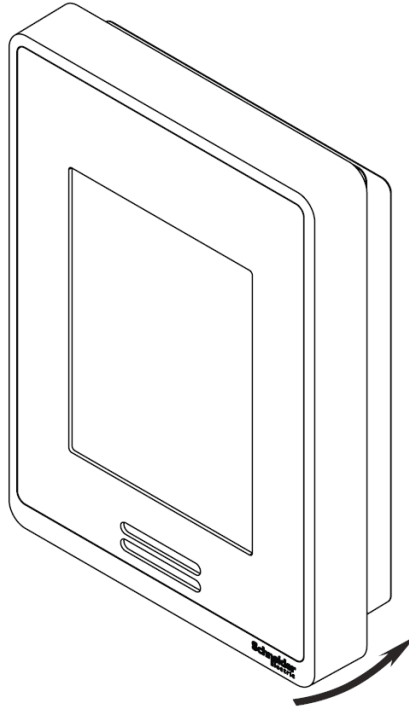

Figure 2
6. Gently push bottom two corners of front plate bottom to secure unit in place (Figure 2).